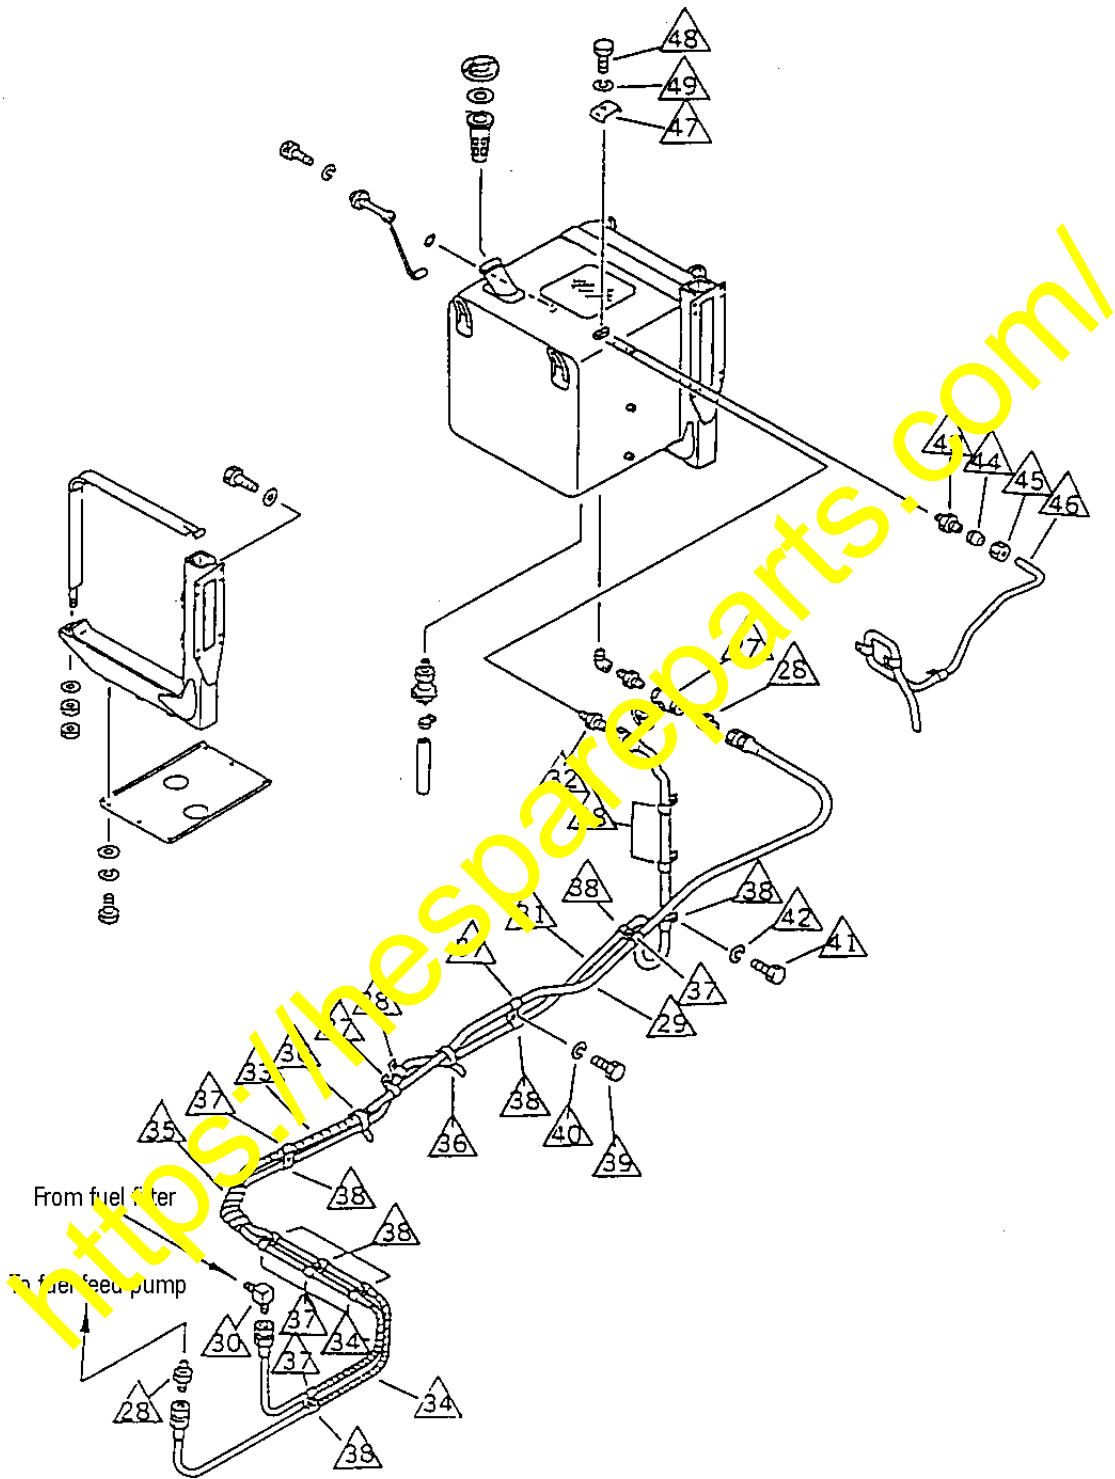

Fig. 14
- (1) Remove the existing fuel piping. (See Fig. 14)